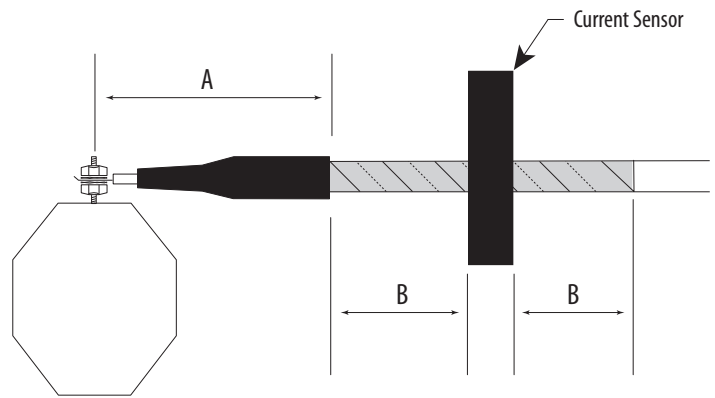
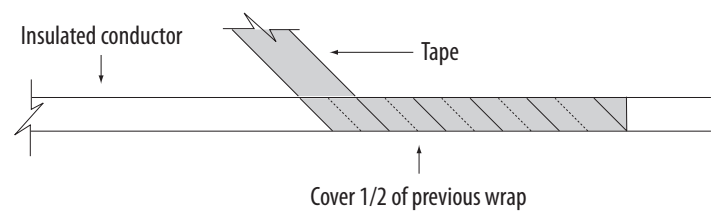

Figure 1
Figure 2
4. Refer to Figure 1. Check national and local codes to determine the clearance distance ("B") required for the voltage applied (Table 490-24 of U.S. NEC 1999). Determine the clearance distance required from terminations or other bare conductors ("A").
5. Apply tape (Figure 2) or insulating sleeves (per manufacturer instructions) to cover each high voltage conductor for a minimum length of twice the distance "B" (from Figure 1) plus the width of the current sensor to be mounted over the conductor.